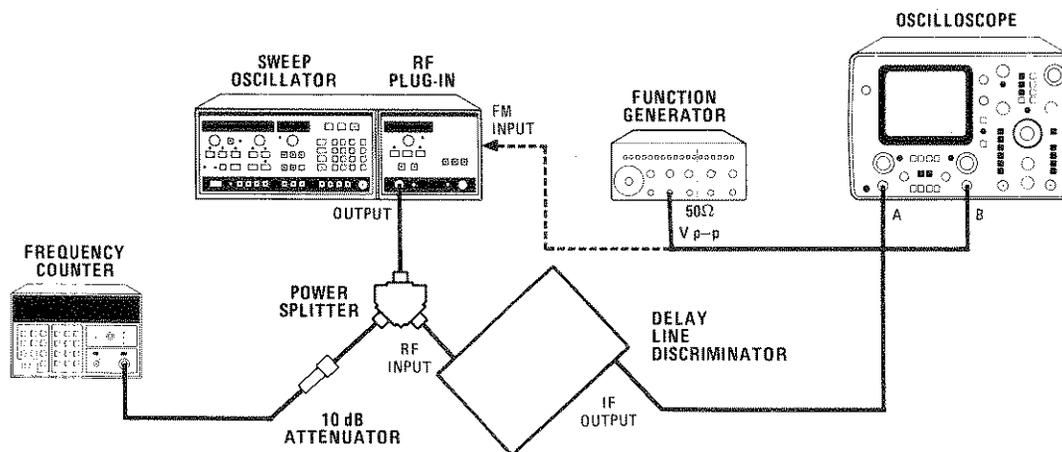

Figure 4-17. >100Hz Frequency Modulation Test Setup
6. Set function generator output amplitude to 0.1 volt p-p output. Connect equipment as shown in Figure 4-17 with function generator output not connected. Adjust CW and CW VERNIER for a delay line discriminator output of 0 volts as observed on Channel A of the oscilloscope. Note frequency counter reading.